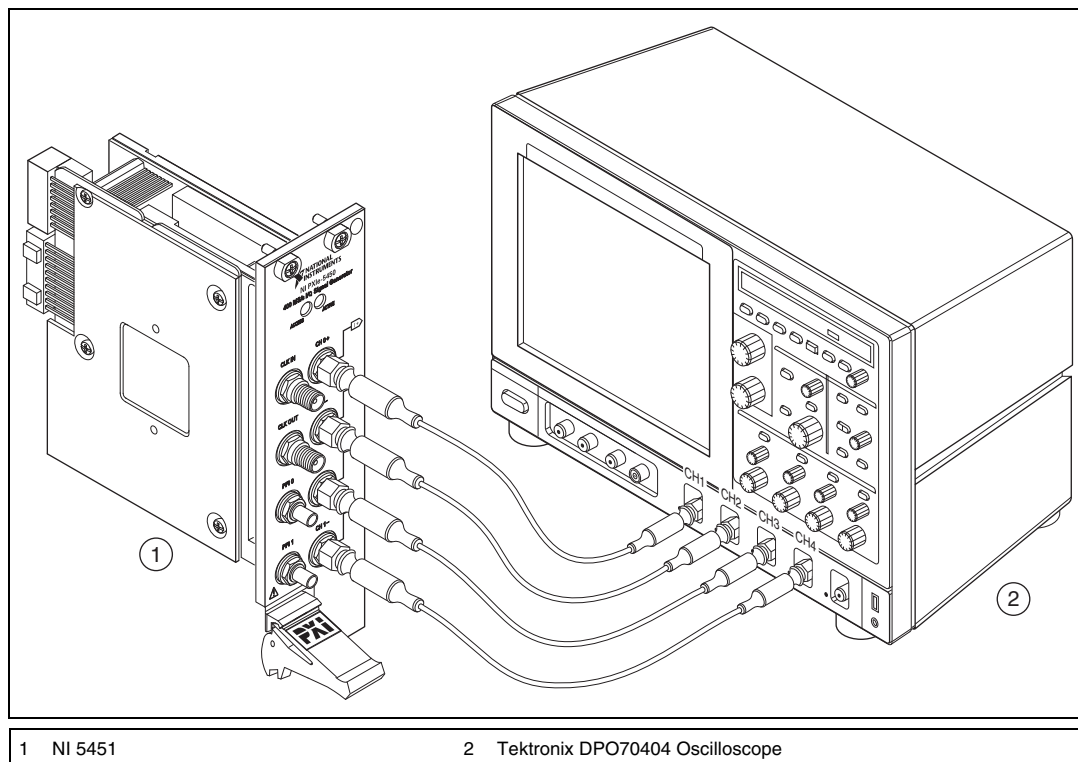

Figure 15. NI 5451 Connection to the Oscilloscope (CH 0 and CH 1)
1. Connect the NI 5451 to the oscilloscope as shown in Figure 15.